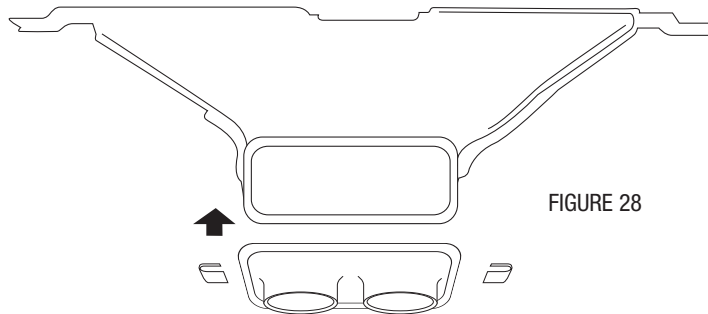

FIGURE 28
**Bag Kit E.** In order to use your OEM defrost diffuser, you will need attach our defrost adapter. Our adapter comes pre-fitted with c-clips, just remove the clips, position the adapter flush with the bottom opening of your OEM diffusers, and re-apply the clips. (see figure 28).